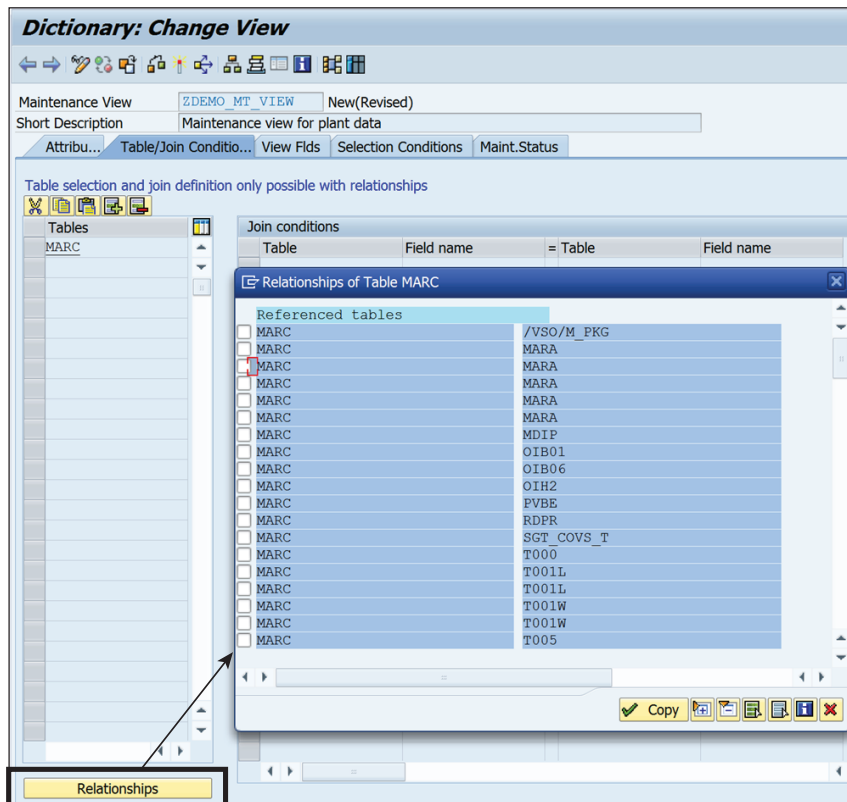

Figure 10.42 Maintenance View
2. Creating a maintenance view is similar to creating a database view. However, in maintenance views, only related tables can be joined. Select join tables by clicking the RELATIONSHIPS button under the TABLE/JOIN CONDITIONS tab in the view maintenance screen, as shown in Figure 10.42.